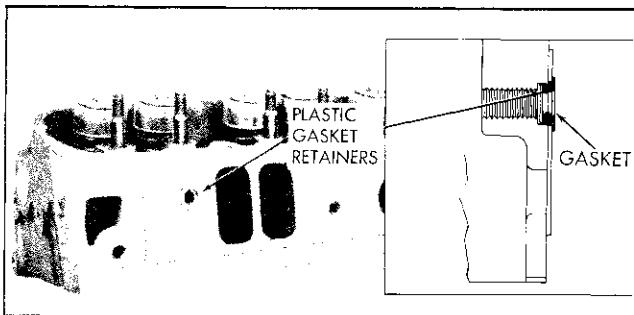

Fig. 6-77 Intake Manifold Gasket Retainers
1. Install new gaskets on cylinder heads, positioning them with plastic retainers (Fig. 6-77).